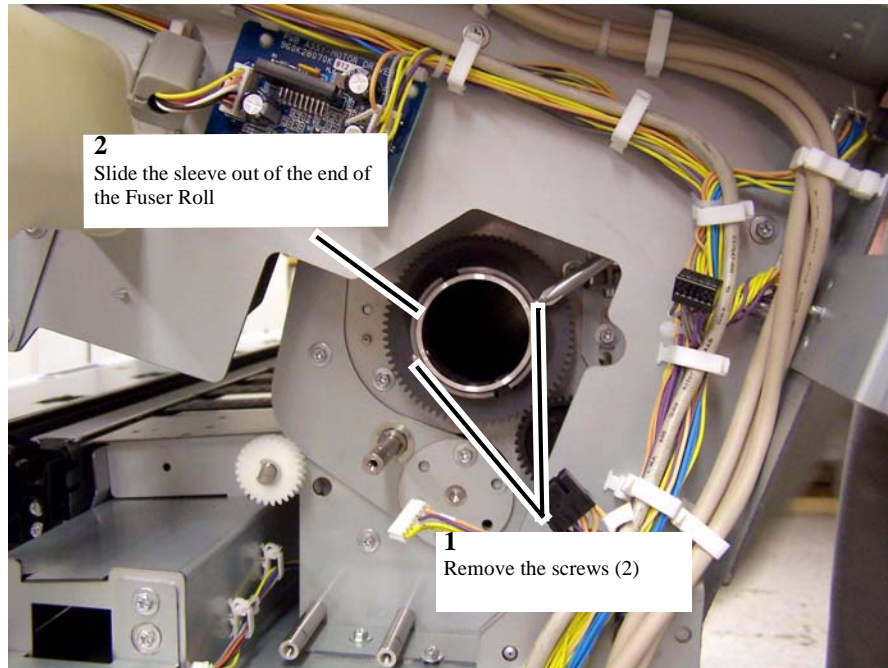

Figure 4 Removing the sleeve from the right end of the Fuser Roll
a. Remove the sleeve which is inserted into the right end of the Fuser Roll (Figure 4).